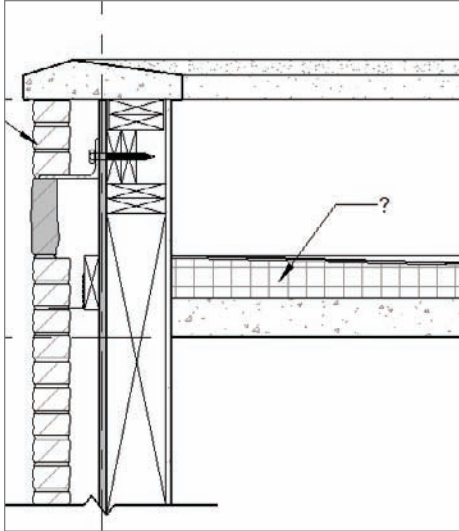

FIGURE 12.55 Adding a material tag to the insulation
2. Place a tag, as shown in Figure 12.55, on the tapered roof insulation. Notice there is nothing but a question mark. This means Revit does not yet have a description for the material.